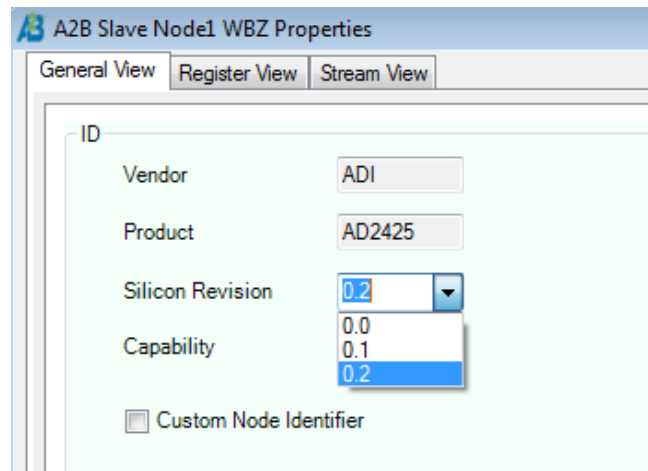

Figure 19: Specifying silicon revision
10. Provide the silicon revision of the A2B Transceiver in the 'ID' tab of General View as shown in Figure 19. Optionally, a custom node identifier can be assigned to a Node by selecting the